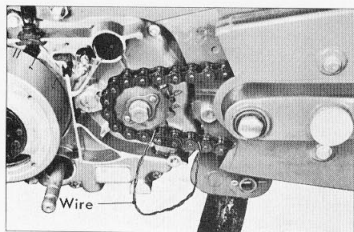

Figure 3-4. Removing the drive chain
- (8) Disconnect the clutch cable (S50, S65)
- (9) Remove kick arm and gear change pedal
- (10) Remove the left crankcase cover and the electrical leads.
- (11) Rotate the rear wheel to position the chain joint as shown in Fig. 3-4 and disconnect the drive chain.